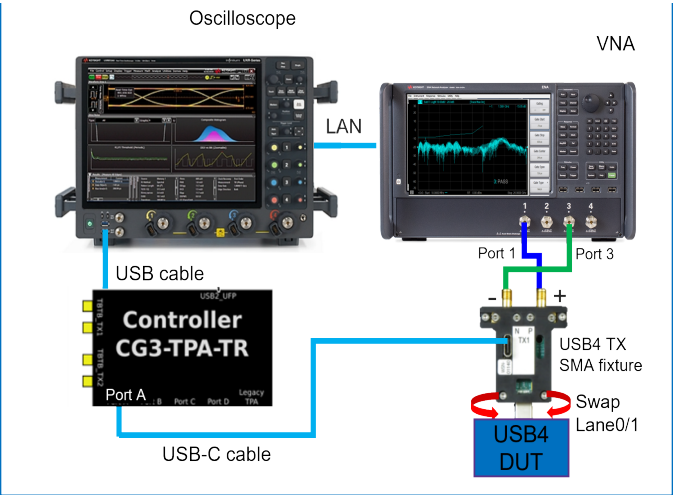

Figure 118 Tx Return loss test setup with Tx SMA test fixture
- 1 For the physical connections between the DUT & the Oscilloscope, see the connection diagrams in Figure 118 and Figure 119.